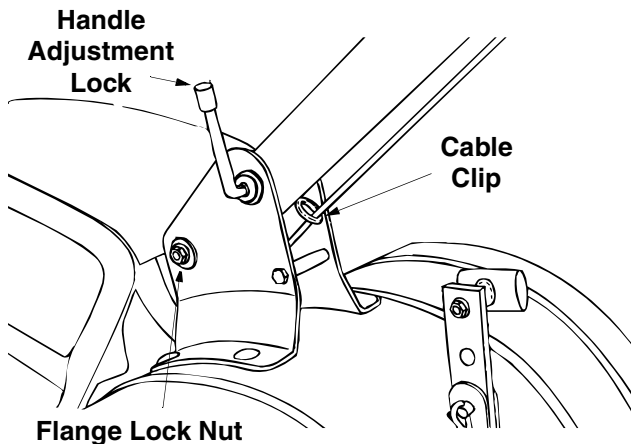
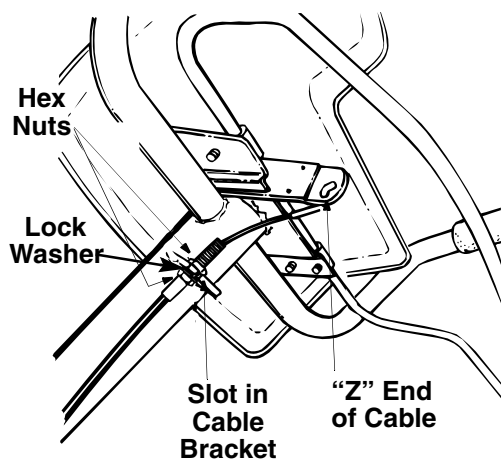

Figure 8
Figure 9 Viewed beneath handle panel.
- Route the clutch cable underneath the handle and through the cable clip. Be careful not to bend or kink the cable. Refer to Figure 8. Remove one hex nut from the threaded casing on the end of the cable. See Figure 9.
- Pull the cable upwards to obtain slack, and, from right to left, hook the "Z" end of the cable into the bracket on the clutch control (beneath the handle panel) as shown in Figure 9. Tighten the nut against the cable bracket.
If the belt turns with the unit in neutral, adjust by moving the hex nut below the cable bracket **down** a few turns. See Figure 9. Tighten the upper hex nut against the bracket.